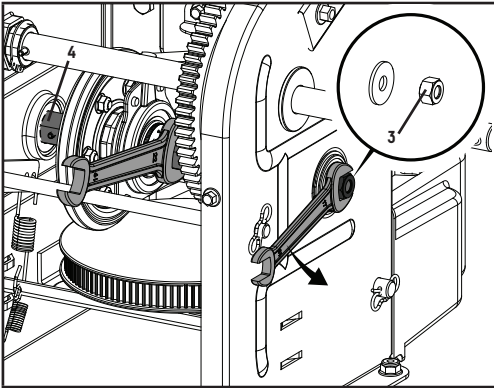

Figure 43
- Carefully remove the M10 hex nut (3) which secures the hex shaft (4) to the snowblower frame and lightly tap the shaft's end to dislodge the ball bearing from the right side of the frame (Fig. 43).